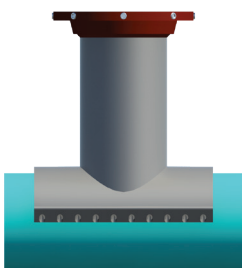

Figure C-3
**C.7)** Using lift support, position the valve body onto the pipe in the position it is to be installed in so that adjusting of the valve's position is not necessary (see Figure C-3). A level should be used to check the orientation of the valve body flange during positioning. If repositioning is necessary lift the valve body off the pipe and retry. Do not rotate the valve body once it is on the pipe as this can cause damage to the gasket.